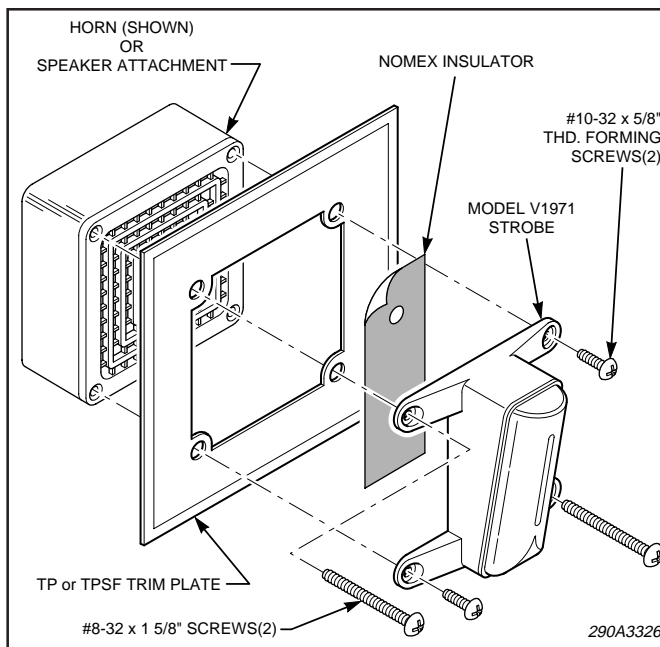

Figure 2. TP or TPSF Trim Plate Mounting.
2. TP, TPSF Trim Plates (see figure 2).
Route the strobe unit's wire leads through the trim plate and horn or speaker. Secure the assembly together using the two #10-32 x 5/8 thread-forming screws (supplied) as shown in figure 2. Perform the electrical connections described in paragraph II.C. Electrical Connections, and then secure the assembly to an approved backbox using